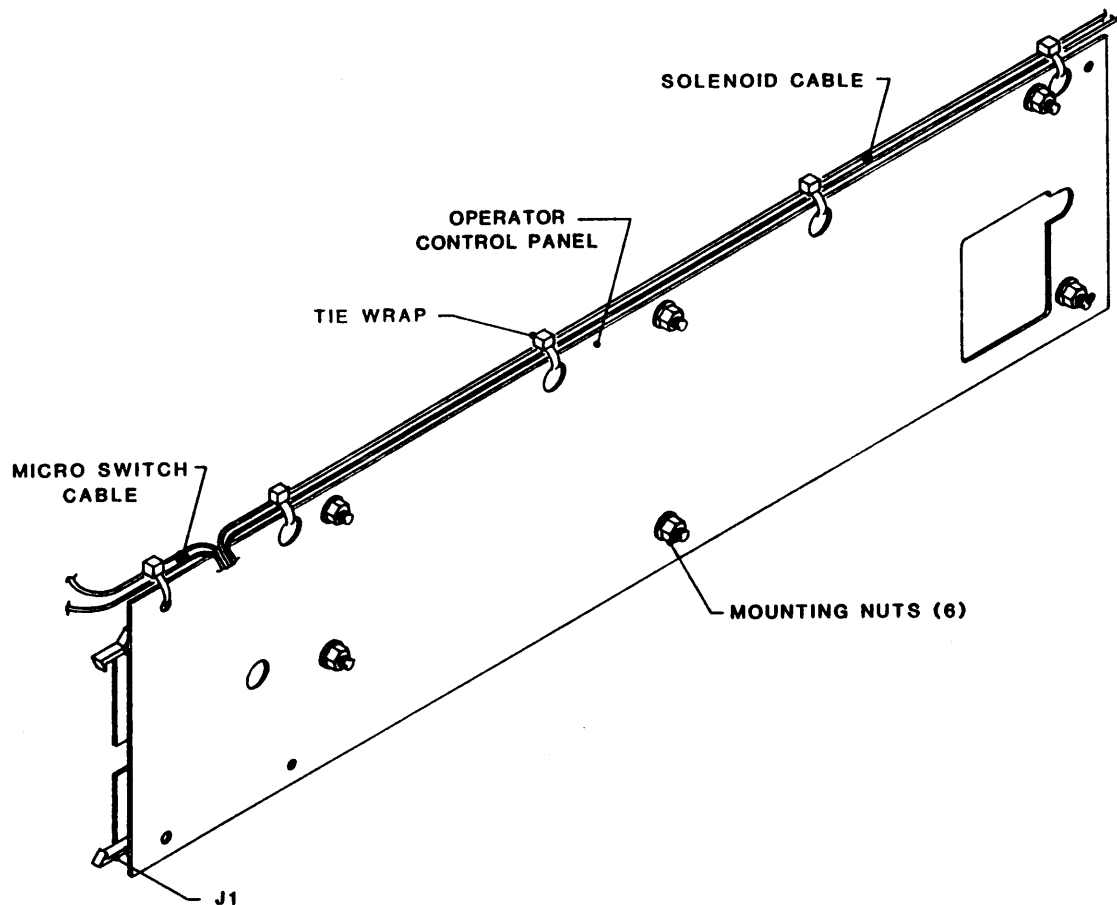

Figure 5-10. Operator Control Panel PCBA
5.3.12 OPERATOR CONTROL PANEL PCBA (Figure 5-10)